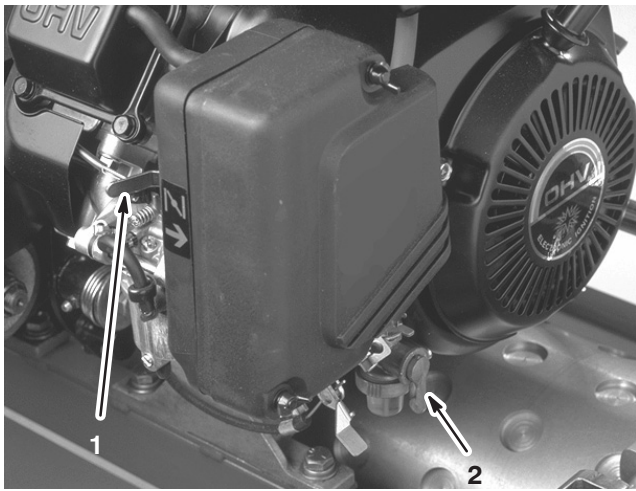

Figure 22
Choke Lever (Fig. 22)
Fuel Shut-off Valve (Fig. 22)
2. Open the fuel shut-off valve on the engine (Fig. 22).
5. Move the choke lever (Fig. 22) to the half-open position when starting a cold engine. The choke may not be required when starting a warm engine.